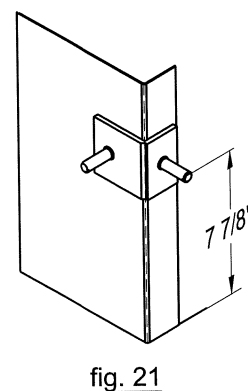

fig. 20 SHOWS A RIGHT SIDE ASSEMBLY.
- Measure and mark a line 6 7/8" down from lintel near corner & perpendicular to plumb line (Figure 20).